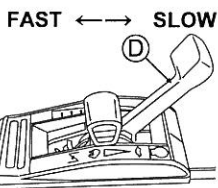

Fig. 4.
5 Adjust the mowing speed with Gearshift lever (D). (See Fig. 4.)